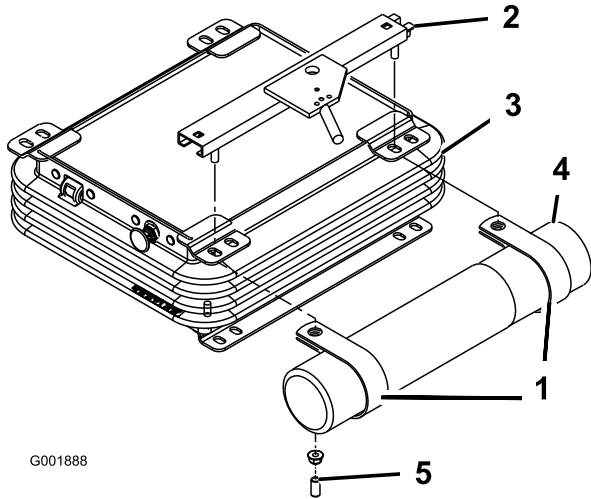

Figure 7
- Remove the 2 nuts and vinyl caps (if previously installed) securing the upper seat bracket to the left side of the seat suspension (Figure 7).
- Loosely mount the R-clamps to the seat bracket studs with the 2 nuts previously removed. (Figure 7).
- Install the manual tube into the R-clamps and tighten the nuts (Figure 7).